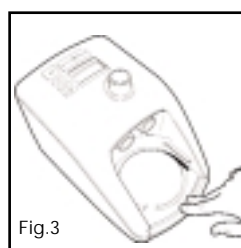

Fig.3
6. To attach the water chamber to the device, press down the finger guard and slide the chamber on (Fig.3) (Fig. 4).